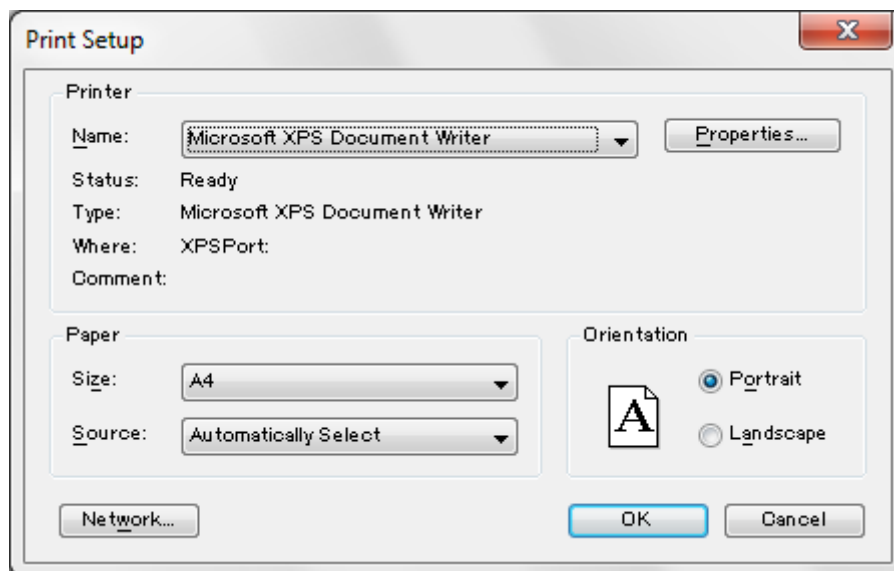

Figure 4.17 Example of [Print Setup] dialog box
- (1) Select [Print Setup...] from the [File] menu to display the dialog box in Figure 4.17. The content of this dialog box varies depending on the connected printer. Configure the printer settings if necessary.